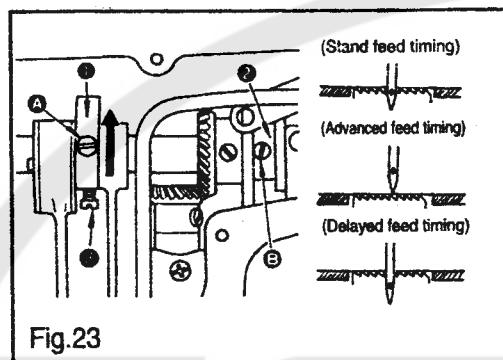

Fig.23
- 1) Loosen nut ② . As you turn presser spring regulator ① clockwise (in direction ④), the presser foot pressure will be increased.
- 2) As you turn the presser spring regulator counterclockwise (in direction ③), the pressure will be decreased.
- 3) After adjustment, tighten nut ②
19.ADJUSTING THE FEED TIMING (Fig.23)